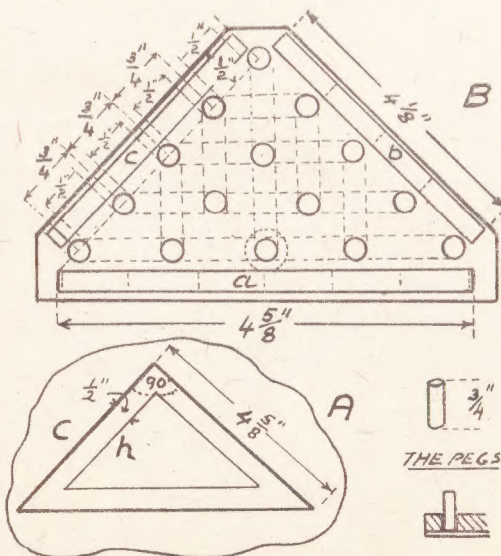

Fig. 2—Details of construction
The marking out of the board is shown in diagrams A and B, Fig. 2. Draw the triangle (C) with a right-angle at the top and sides of $4\frac{5}{8}$ ins. Scribe the line (h) $\frac{1}{2}$ in. from each of the sides and divide up, as shown in (B). At each $\frac{1}{2}$ in. space, now put a complete circle of that diameter. Join lines across between each pair of holes, also vertically downward which by their intersections give the positions of the inside circles. Mark, too, the lines at which the corners have to be cut off and draw in the three rectangles (a), (b) and (c) which are to be taken out as receptacles for the pegs.
distinct pieces. The top tray-like section is afterwards hinged to the larger portion to form the lid. This is plainly illustrated in Fig. 2. The front of the box—that piece which was previously screwed to the ends, is removed and the smaller top piece cut from it, and glued to the top to form the front rail of the lid.